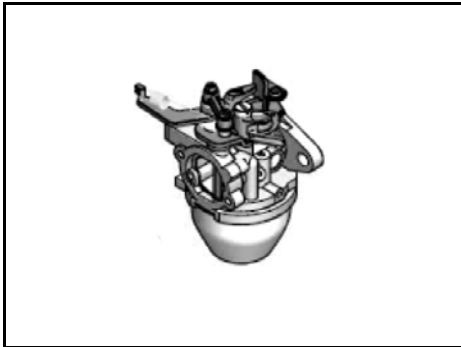

Figure 7
- Figure 7 - ReadyStart®, Models 110000, 120000 Vertical Shaft